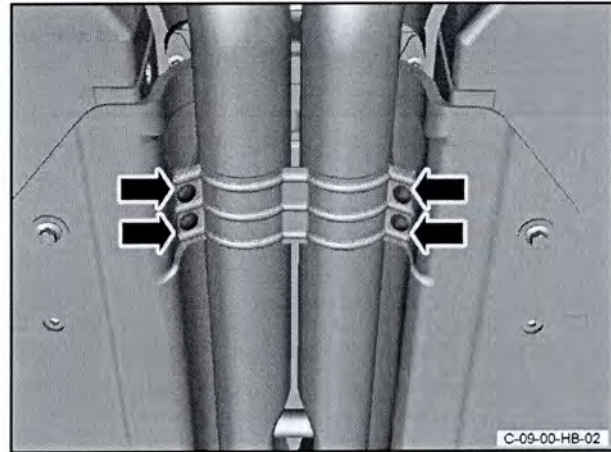

Figure 6
12. Remove the four attachment bolts for the centre exhaust mounting (refer to Figure 6).